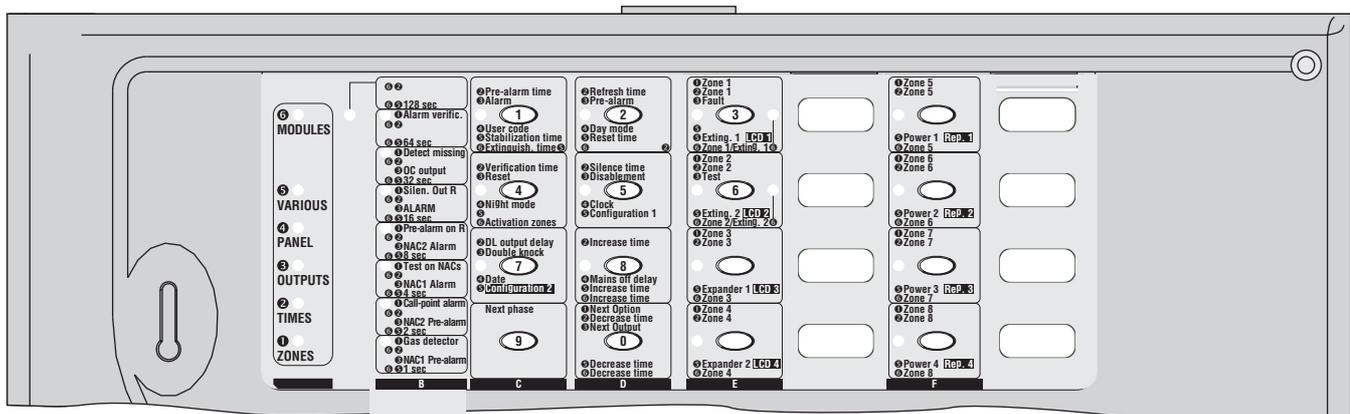

Figure 28 Using the Programming Overlay with a J408 Control panel
4. Remove the cut-outs (for the LEDs), and insert the tabs of the Programming Overlay into the Zone label slots, as shown in Figure 28.
5. Press the **Next Phase** key 9 then select the group of parameters that you want to program: ZONES, TIMES; OUTPUTS; PANEL or VARIOUS (refer to the respective paragraph for details) **or**, if you want to program the Extinguishment Modules, press and hold (for at least 2 seconds) key 3 or key 6, respectively, Extinguishment Module nr. 1 and Extinguishment Module nr. 2 (refer to “Programming Modules” for details). The respective LED in column **A** will turn On to indicate the group of parameters concerned.